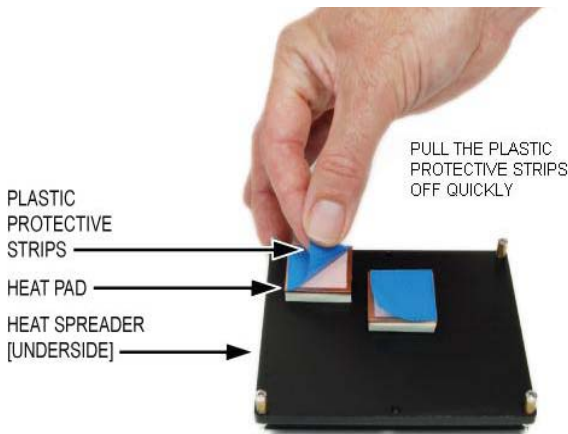

Figure 61: Removing Protective Strips from Heat Pads
- Prepare the heat spreader for installation by removing the blue plastic protective strips from the adhesive heat pads (see Figure 61).